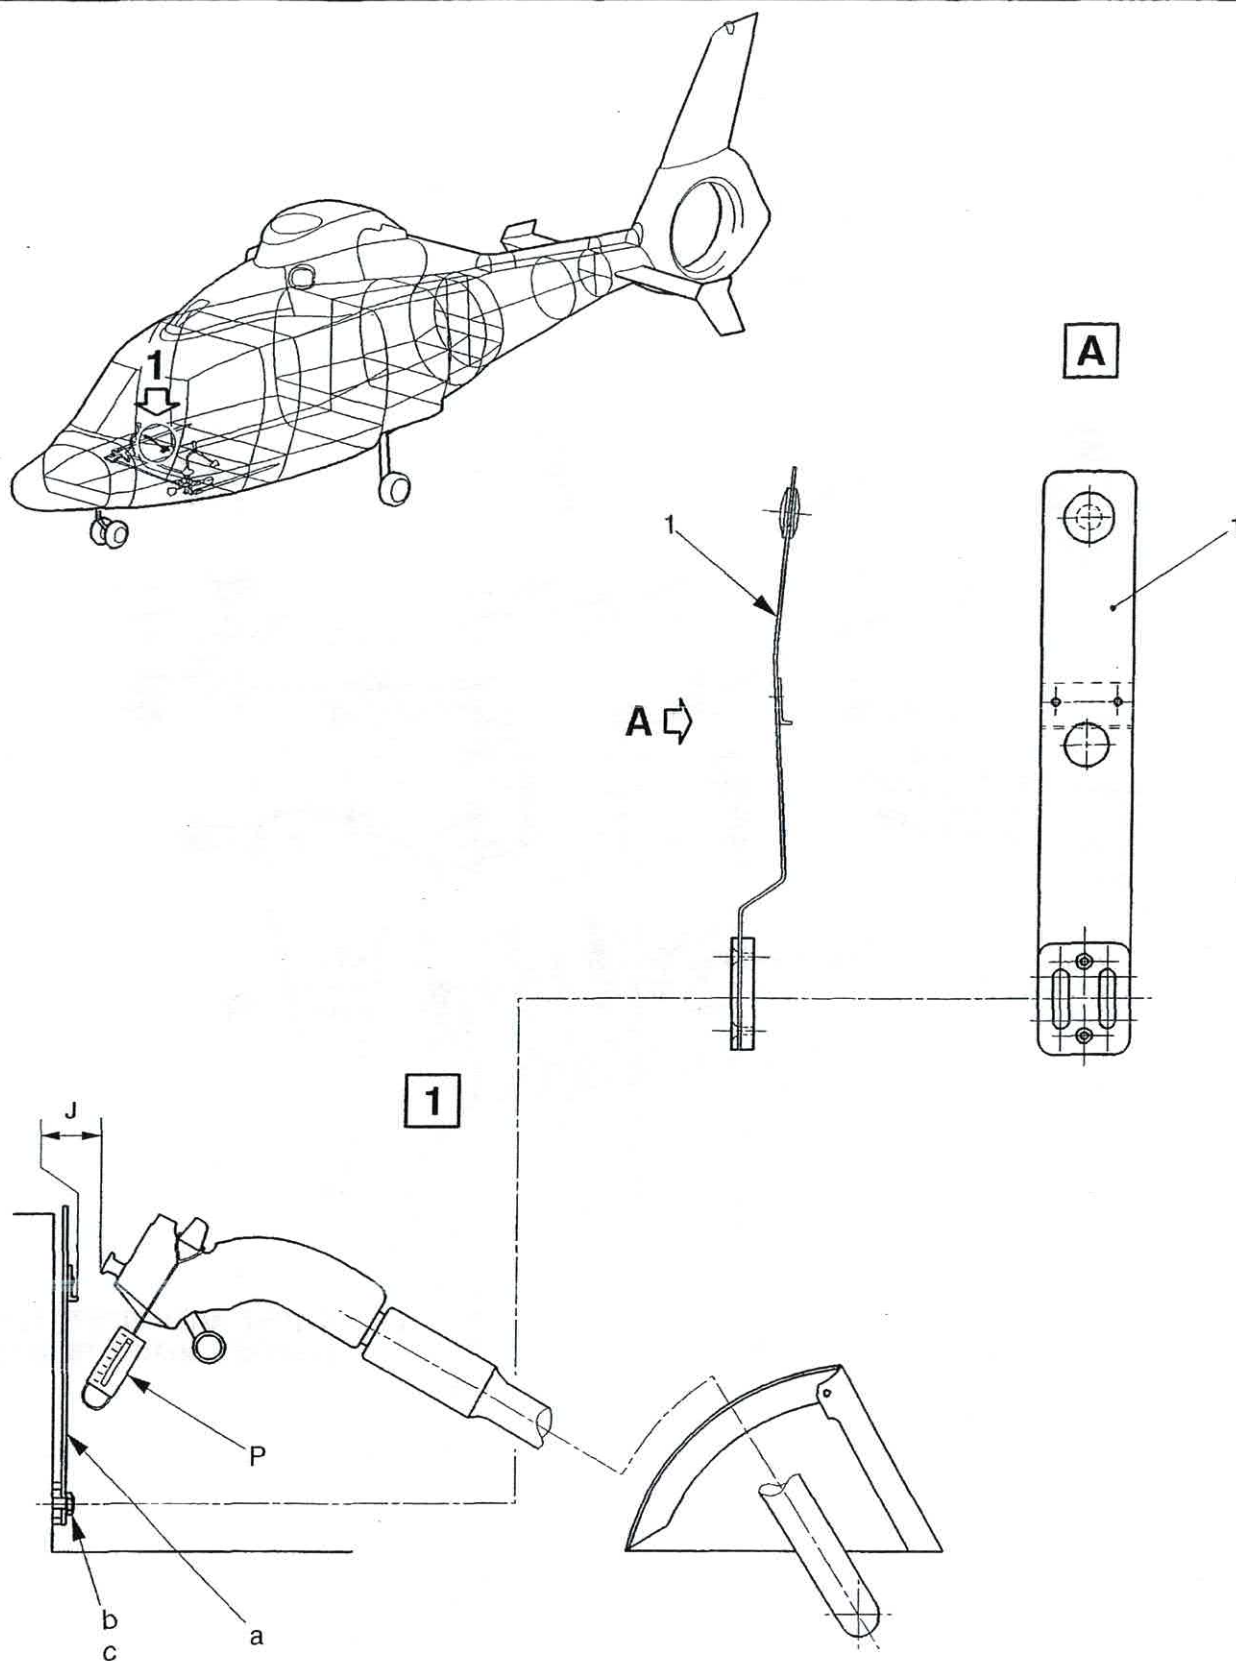

Figure 3
2.B.2.d. Installing the collective pitch locking assembly (Figure 3)
- Install locking assembly (1) and secure without tightening, by means of bolts (b) and washers (c).
2.B.2.e. Adjusting the collective pitch lockplate (Figure 3)
- Adjust the lockplate so that the collective lever can be unlocked by exercising a pressure comprised between 11 and 14 daN on the pilot's collective lever grip, by means of spring balance (P), as per Figure 3 detail 1.
- Check that play  $J = 3$  mm is effective between the collective lever pin and the lockplate angle, as per Figure 3.